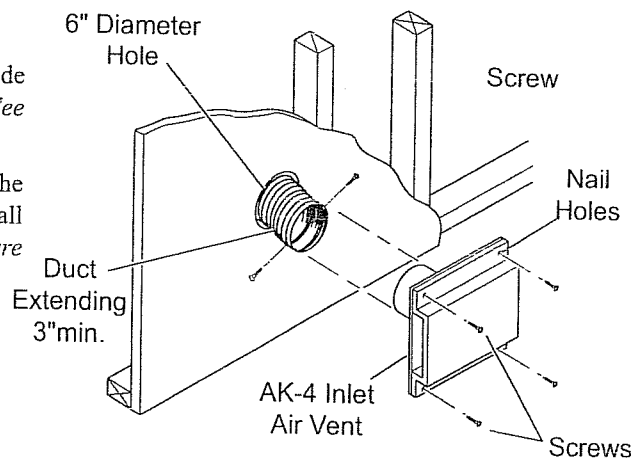

Figure 20 - Combustion Air Assembly for Model No. AK-4
5. Cut a 6-inch diameter opening for model AK-4 in the outside wall covering where the outside vent is to be located. *See Figure 20.*